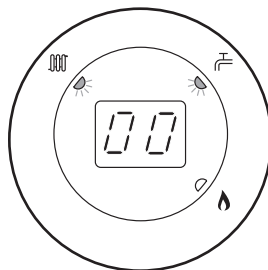
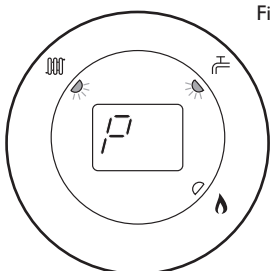

Fig. 41
Fig. 42
5. Turn CH temperature control knob fully clockwise. As the knob is turned the display will change from '0' to '00' (Fig. 41) indicating maximum rate, then revert to 'P' alternating with the current boiler temperature (Figs 42 & 43).